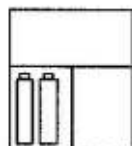
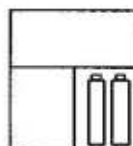

Fig. 1
Fig. 2
1. Insert 2 / 4 pieces of AA/AAA/C/D or 1 / 2 pieces of 9V cell, rechargeable Ni-MH/Ni-Cd batteries into the battery compartment; battery must be charged in pairs (9V cell can be charged individually). For charging only 2 pieces of AA/AAA/C/D cells, insert the batteries to the left or right side of the charging terminal (Fig. 1) & (Fig.2)